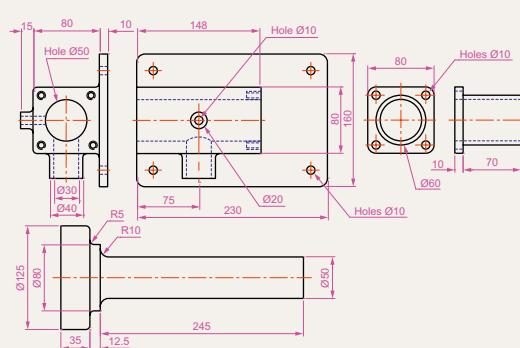
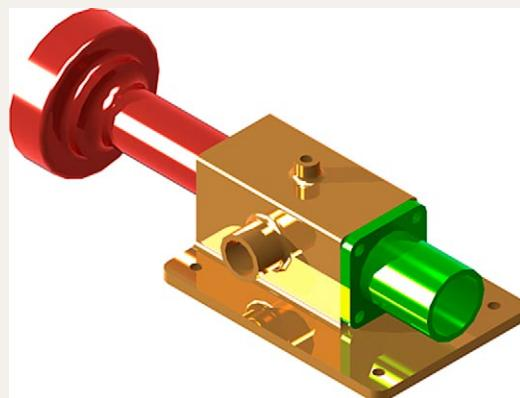

Fig. 18.22 Exercise 2 – details of shapes and sizes
Fig. 18.23 Exercise 2
- Working to the dimensions given in the orthographic projections of the three parts of this 3D model (Fig. 18.22), construct the assembled as shown in the rendered 3D model (Fig. 18.23). Add suitable lighting and materials, place in one of the isometric viewing position and render the model.